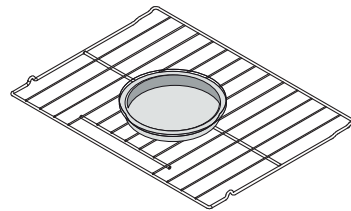
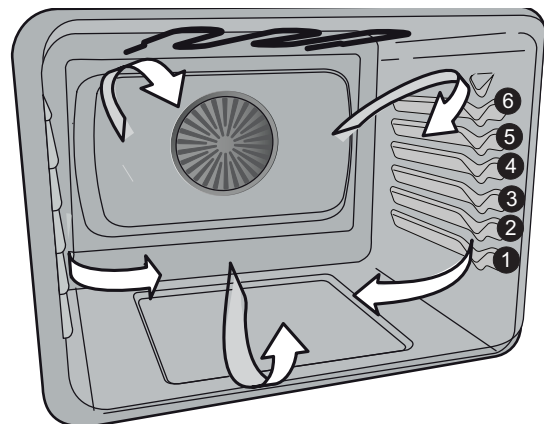

Figure 11: Single rack baking for convenience foods
Figure 12: Oven rack positions
- Always place food in center of the oven on rack position 2 Glide or 3 flat rack (Figure 12). Place the food as shown in Figure 11.